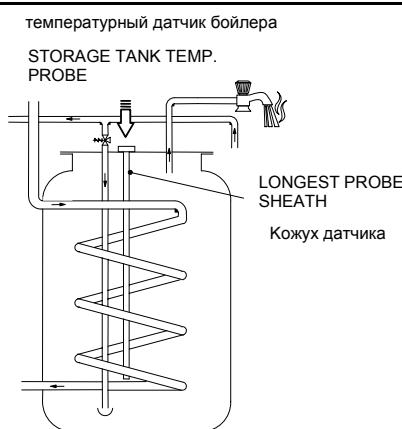

Fig. 5.22
- Insert D.h.w. storage tank temp. probe in the longest probe sheath (Fig. 5.22).